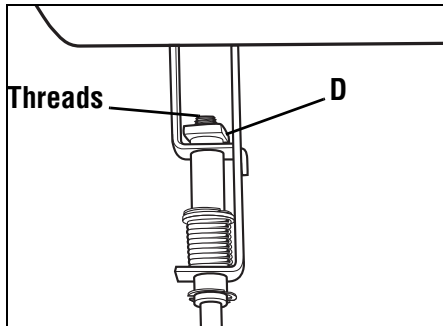

Figure 5-10: One or two threads on Forward Clutch Rod should be exposed above rectangular nut.
3. Unthread the Forward Clutch Rod (in a counterclockwise direction as viewed from the front of the unit) until one or two threads on the rod extend above the rectangular nut (D, Figure 5-10) on the forward clutch bracket.
5. Slip the forward drive belt (E, Figure 5-10) off the engine-driven forward drive pulley by pushing it off (away from engine) with your left hand while pulling engine starter rope with your right hand.